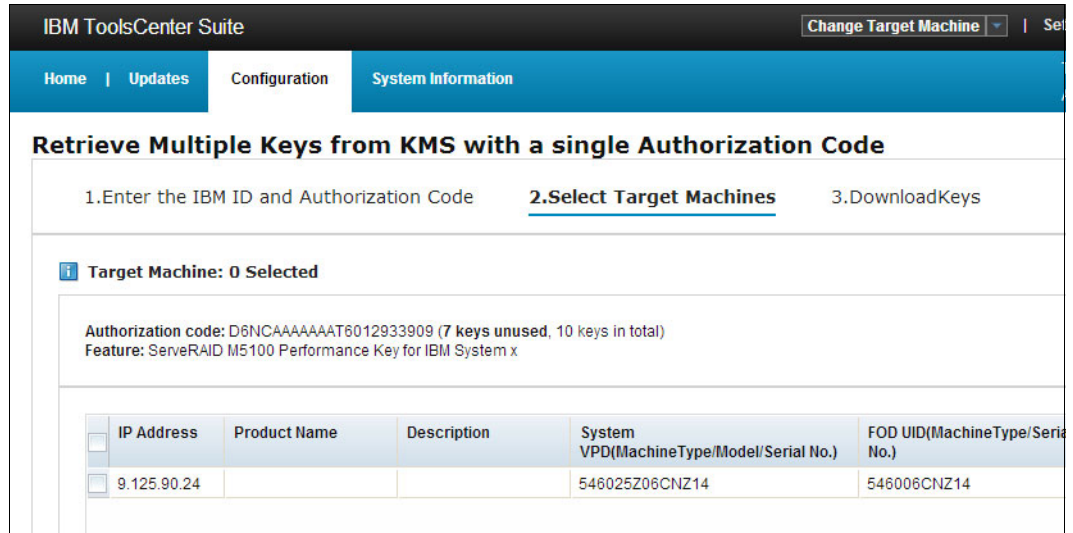

Figure 3-58 Select target machines
- Select the target machine (or machines) to which we want to apply the FoD key. The machine's IP address and VPD are displayed, in addition to the FoD UID, as shown in Figure 3-58.